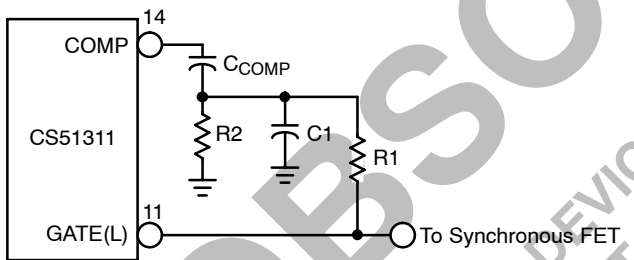

Figure 13. Small RC Filter Provides the Proper Voltage Ramp at the Beginning of Each On-Time Cycle
The circuit that implements this function is shown in Figure 13.
The ramp waveform is generated through a small RC filter that provides the proper voltage ramp at the beginning of each on-time cycle. The resistors R1 and R2 in the circuit of Figure 13 form a voltage divider from the GATE(L) output, superimposing a small artificial ramp on the output of the error amplifier. It is important that the series combination R1/R2 is high enough in resistance not to load down and negatively affect the slew rate on the GATE(L) pin.